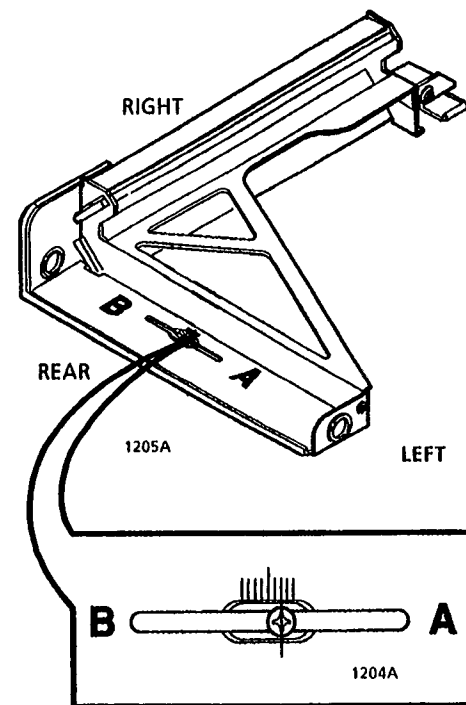

Figure 2. Adjusting the Lead Edge to Trail Edge Registration.
3. (Figure 2): If, during the check, the registration scale reading was: